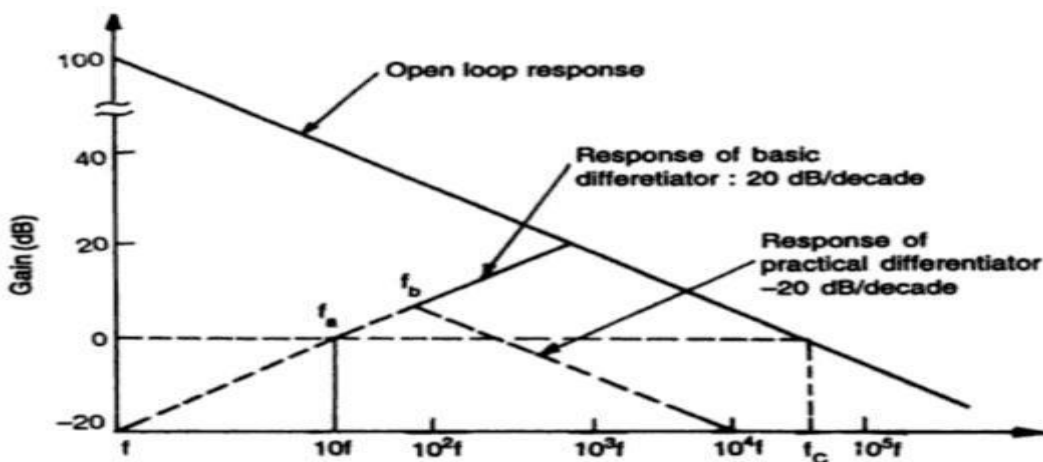

Fig. 1.3.6.2 Frequency response of Differentiator
1.3.6.1 Practical Differentiator Fig. 1.3.6.1 Practical Differentiator